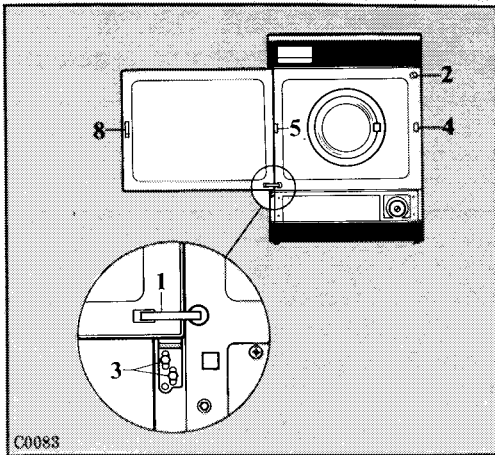

Fig. 12
- a) Bend and disengage from the door the end of the closing catch (1-Fig. 12), then rotate it 90 ° to remove it from its seating;
- b) Using a screwdriver, rotate the plastic cap (2- Fig. 12) 90° and remove it;
- f) Remove the door by unscrewing the two screws fastening the bottom hinge (3-Fig. 12). Keep hinge for possible future use if it is required to return to original door opening direction;
- g) Remove the stop hook (4-fig. 12) after having removed the fixing screws from the cabinet. Take out stud 5 (fig. 12) pulling it outwards from the bottom and
Displace door closure (8 fig. 12) bending the two fastening wings in the direction of the arrows on the closure itself. Turn the closure upside down and push it till fastening of the two wings.